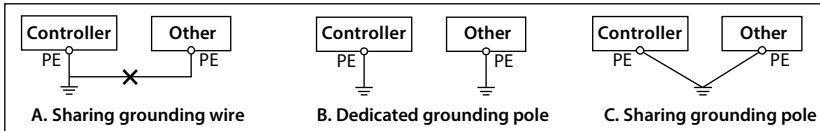

Figure 4-21 Grounding method
Do not share the grounding wire with other devices (A). MONT72 can share grounding pole with other devices (C). It achieves the best effect if MONT72 and other devices use dedicated grounding poles (B), as shown in Figure 4-21.